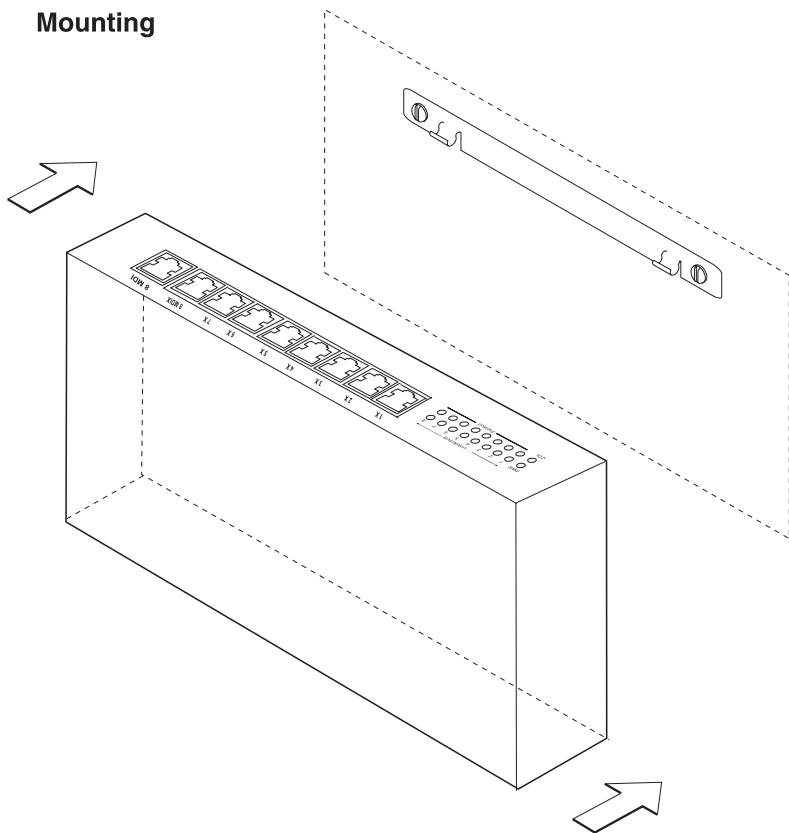

Figure 2-1. Wall Mounting an Ethernet Desktop Hub
- c Hold the hub over the mounting bracket so that the slots on the back of the hub rest firmly on the mounting bracket. Figure 2-1 on page 2-3 illustrates this step.